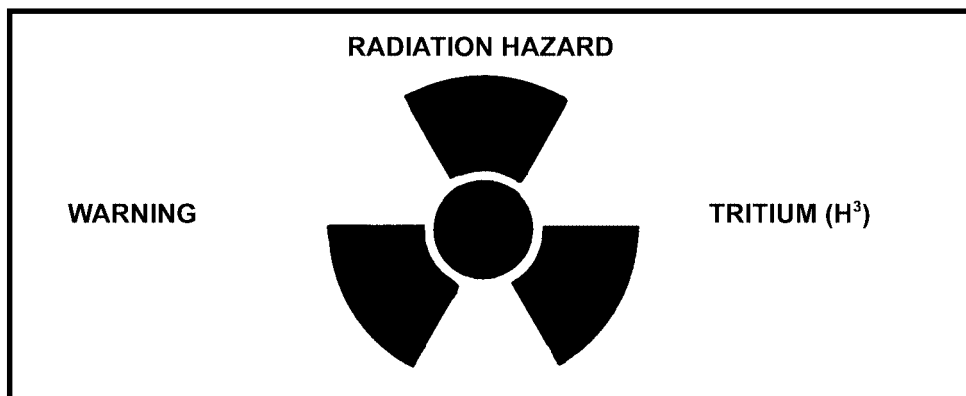

Figure 2-14. Warning label for tritium gas (H³).
- (1) *Identification.* Radioactive self-luminous sources are identified by means of warning labels (Figure 2-14), which should not be defaced or removed. If necessary, they must be replaced immediately.
c. **Safety Precautions.** The radioactive material used in the sightunit for illumination during night operations is tritium gas (H^3), which is sealed in glass tubes. The gas is not hazardous as long as the glass tubes are intact. If there is no illumination, the RPO or NBC officer should be notified. Radioactive self-luminous sources are identified by means of warning labels (Figure 2-14), which should not be defaced or removed. These warning labels should be replaced as necessary.